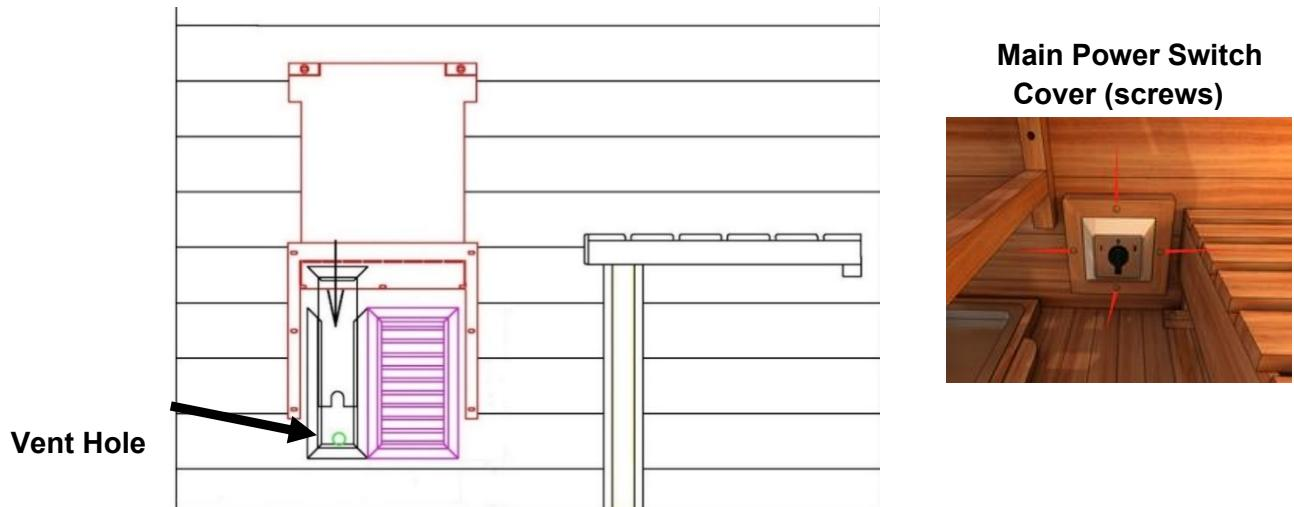

Figure 10
2. **Please Note:** The heater must be installed by a certified electrician per the manufacturer's manual. The heater must be installed per the electrical code in your area with reference to the breaker and wire sizes & wire material. Be sure to follow the manufacturer's manual for proper and safe installation of the heater. A certified electrician will need to run the applicable wire from the electrical panel or junction box to the main power switch per the schematics on page 15. For the Harvia Wall Heater and if the power line is not already installed from the main power switch, it is very important to run the power line through the vent hole in the wall panel and close the vent before installing the heater as you will not be able to open the vent once the heater is installed. See Figure 10. After the heater is mounted, you can install the wood housing for the heater. The wood housing does vary in styles. Use the provided screws to screw the three sides of the HEATER GUARD together. HEATER GUARD designs may vary. You will need to mount the HEATER GUARD to the sauna wall panel using the provided screws. The HEATER GUARD is installed around the heater as the heater does get very hot.